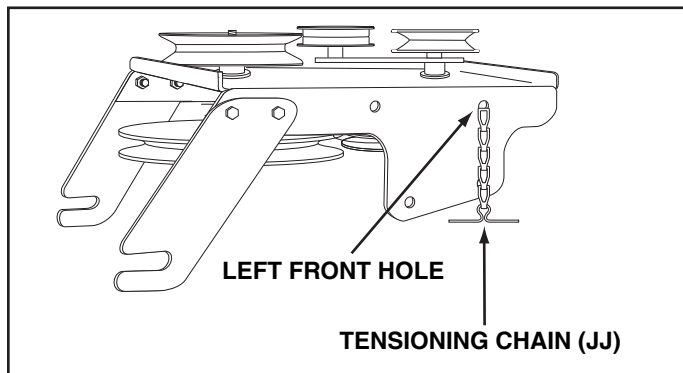

FIGURE 15
STEP 15: (SEE FIGURE 15)
- Turn the clutch/idler assembly upside down and place the second tensioning chain (JJ) through the left front hole.